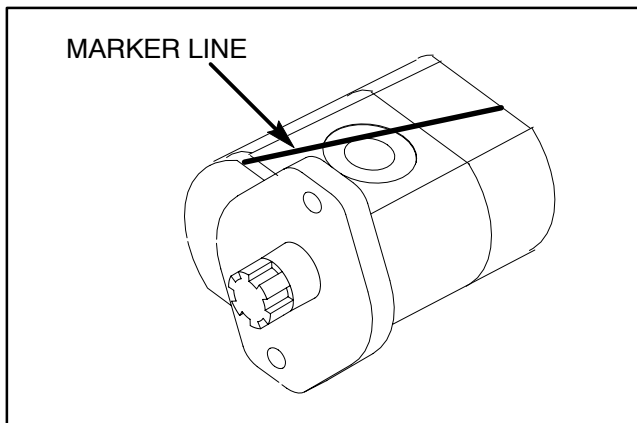

Figure 41
2. Use a marker to make a **diagonal** line across the front plate, body and back plate for assembly purposes (Fig. 41).
NOTE: When assembling the motor, check the marker line on each part to make sure the components are properly aligned during assembly (Fig. 41).
11. Install locating dowels in body. Align marker line on the body and front plate (Fig. 41).